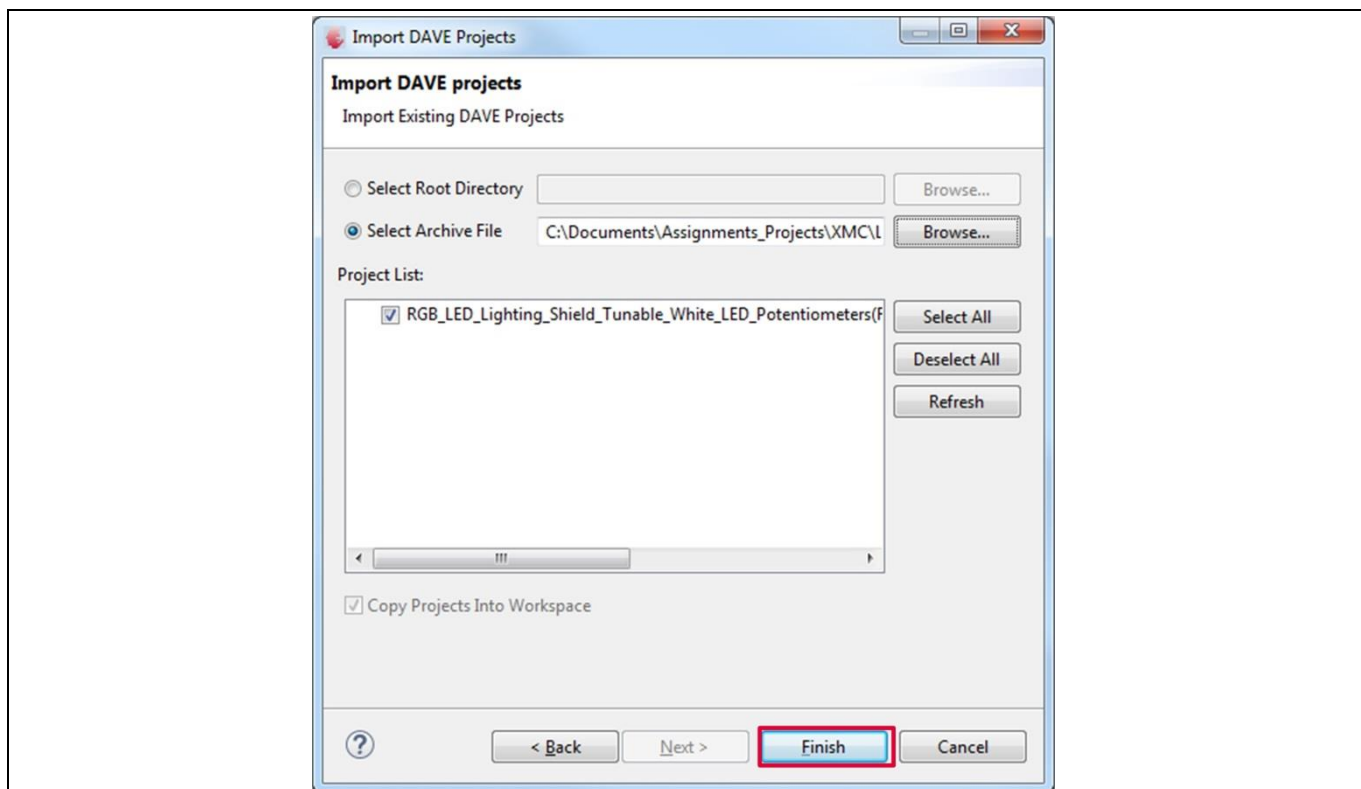

Figure 18 Project name appears under “Project list”
4. The project name should appear in the project list (Figure 18). Click “Finish”.